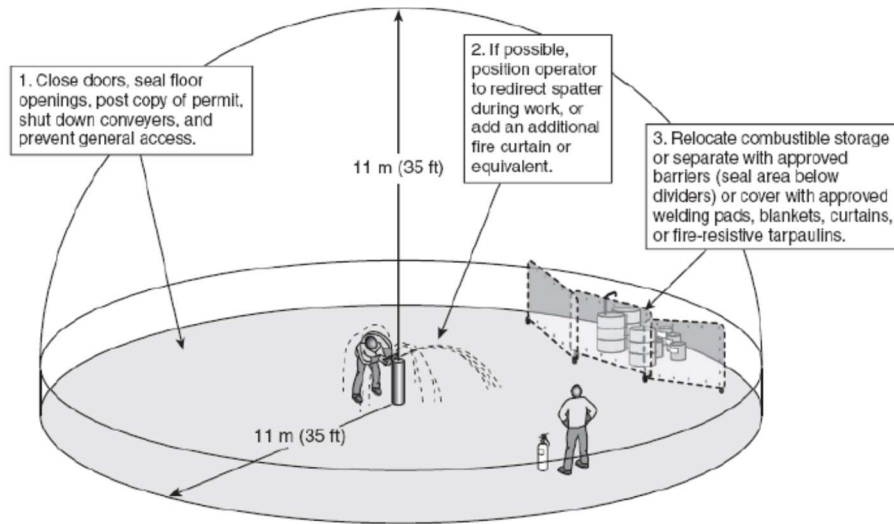

Figure 1 35 ft Rule
- Hot work should be conducted outside of the covered process unit, when possible. If the object to be welded or cut cannot readily be moved, all movable fire hazards and combustibles shall be relocated at least 35 feet in all directions. If relocation is impractical, combustibles shall be protected by a listed or approved welding curtain, welding blanket, welding pad, shielding or guards (see Figure 1).